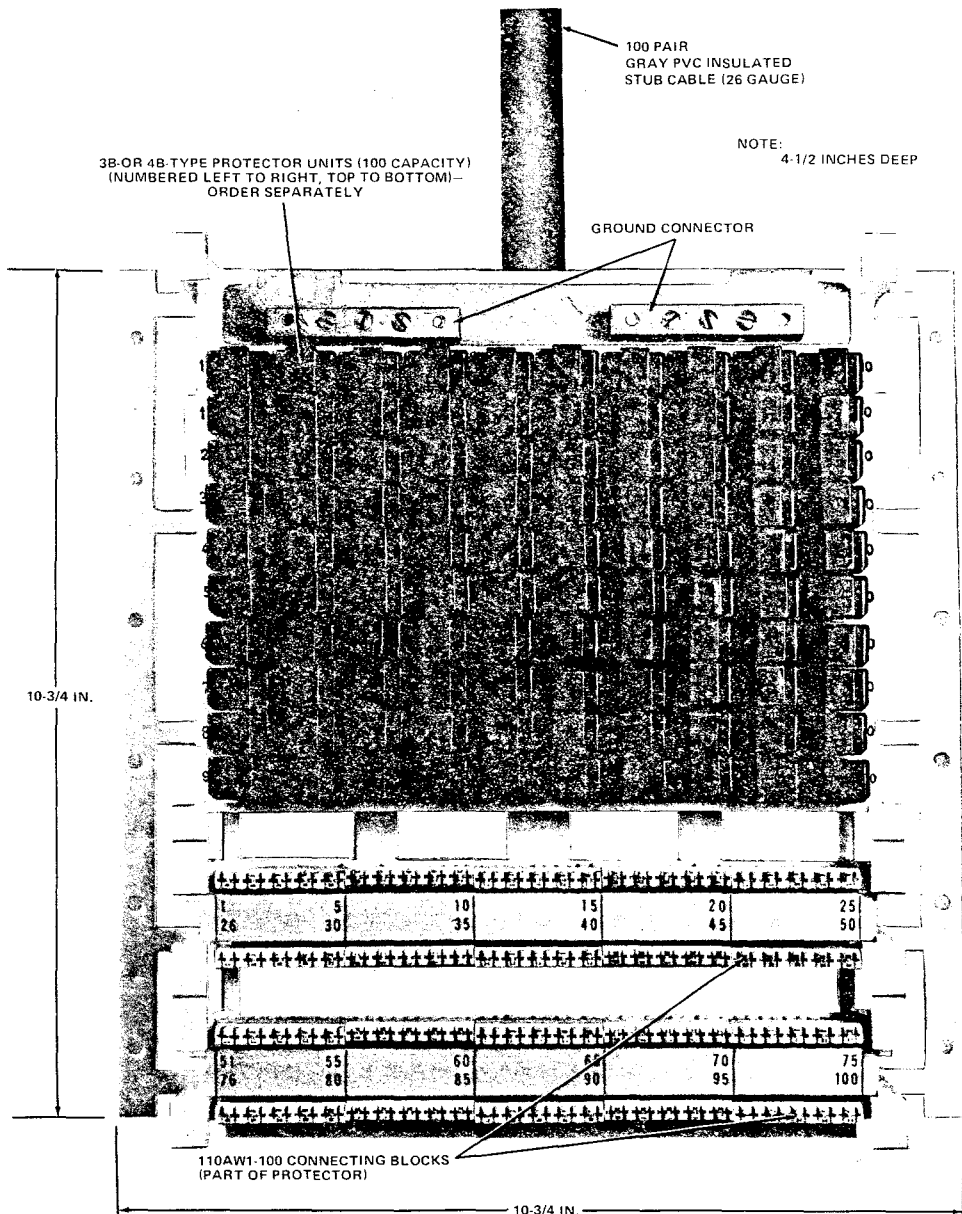
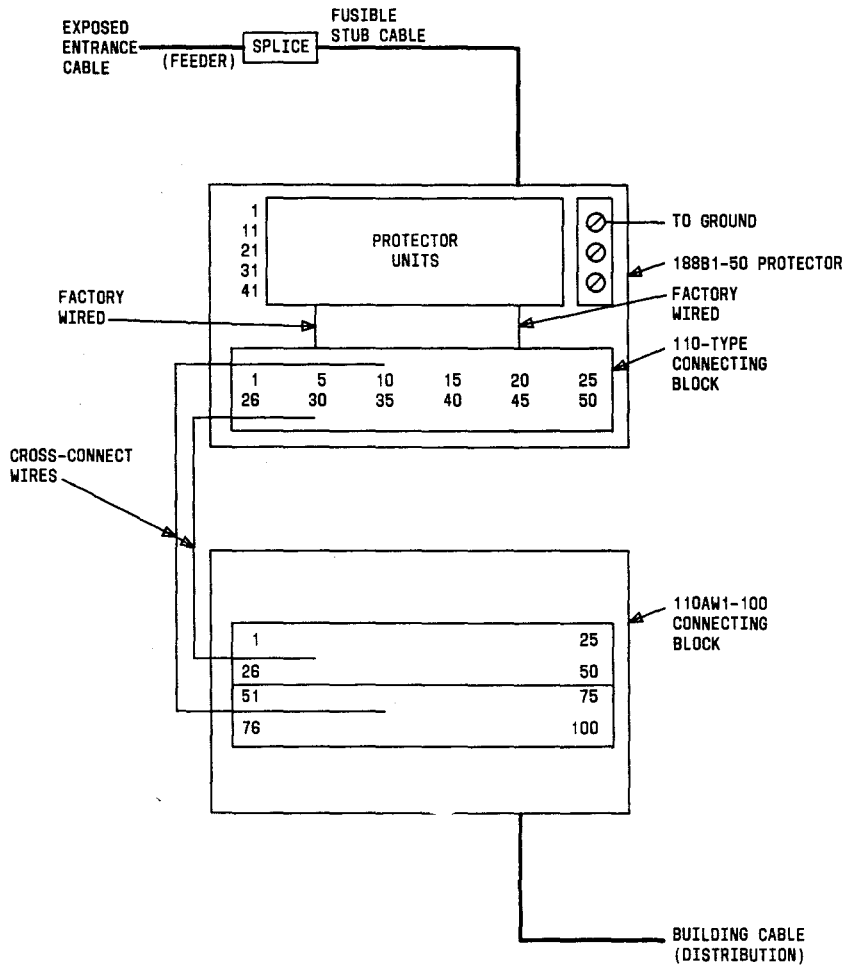

Fig. 1—188A1-100 Modular Protector
Fig. 3—Wiring Diagram for 188-Type Protector
2.01 ◆The 188-type modular protectors (Fig. 1 and 2) are combination protector and terminating field intended for use with the 110-type connection hardware. The protectors provide electrical protection at building entrance terminals for 50 or 100 exposed feeder cable pairs by using the 3B- or 4B-type protector units. The protector units are not furnished with the protector and must be ordered separately. The 3B3A or 4B3C protector units (red housing) may be used to designate those circuits requiring special service protection (SSP).◆
to bottom as shown in Fig. 1; ie, protector unit No. 1, located in top left corner, is wired to pair No. 1 on wiring block, etc. Figure 3 shows a wiring diagram for the 188-type protector.